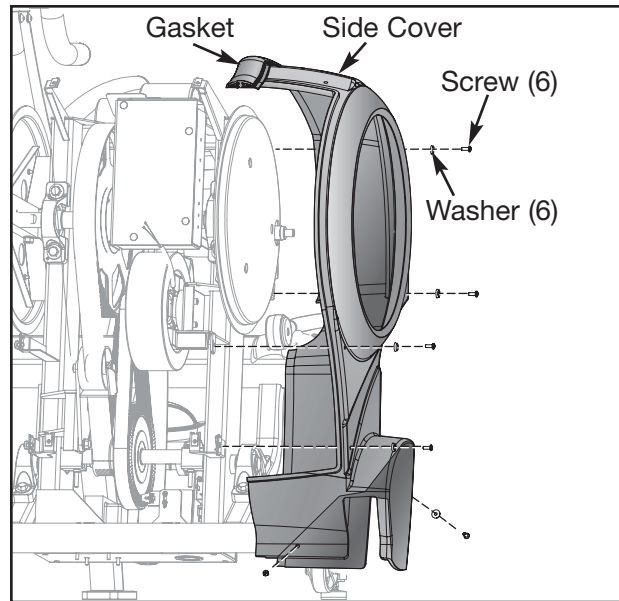

Figure 5
- A. Remove the six screws and six washers securing each side cover in place. See Figure 5.
- B. Remove both side covers. **NOTE:** The gasket will come off with one of the side covers. See Figure 5.